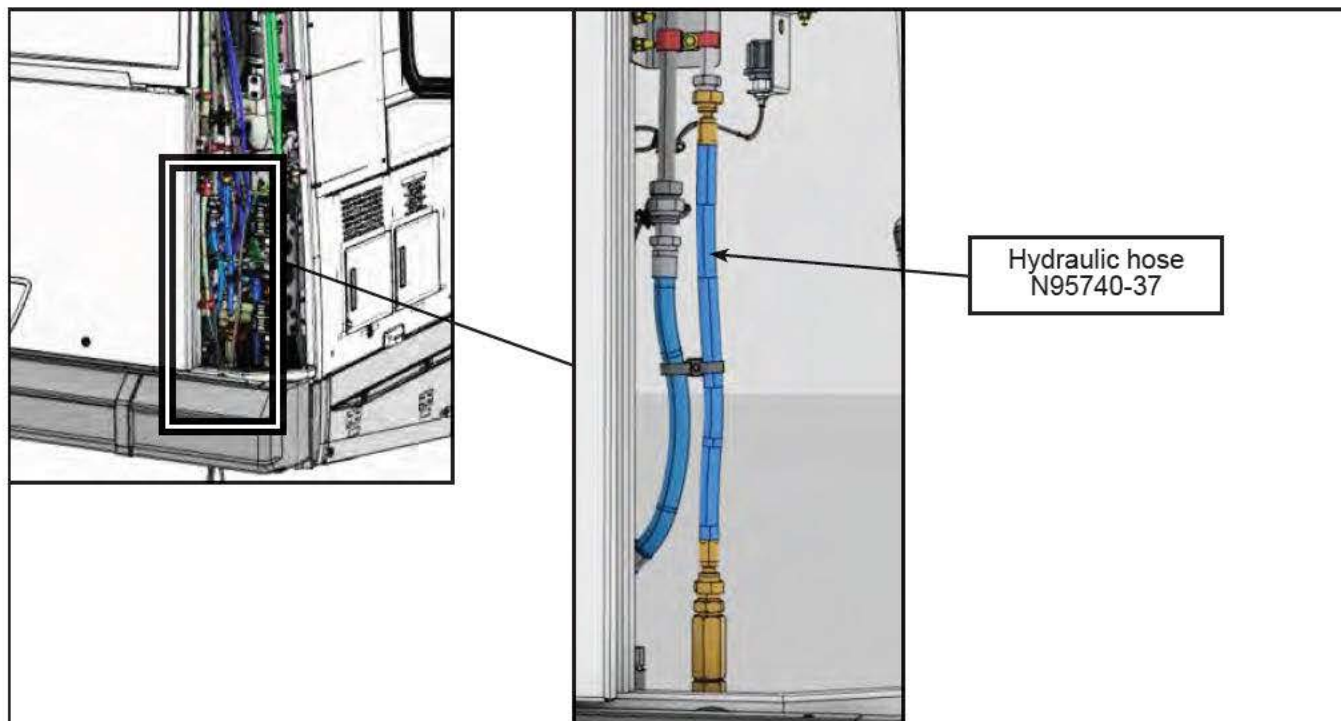

Figure 4 - Replace Hydraulic Hose N95740-37
- 1.9. Locate hydraulic pipe N95740-37 (Figure 4).